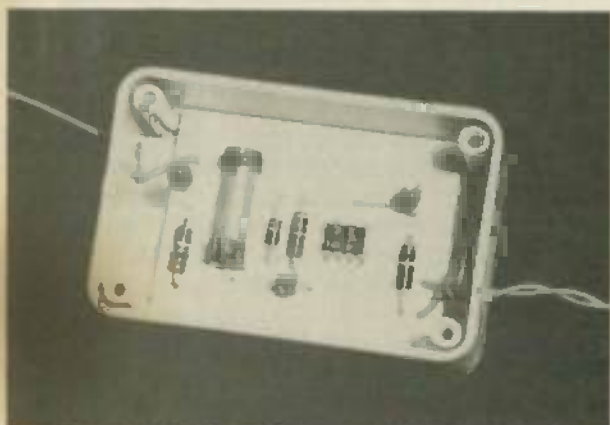

FIG. 3—USE THE RECOMMENDED CABINET, and the PC assembly just drops into place. Giving the wires a twist or two will provide strain relief.
-inch printed circuit board (Fig. 2) which can be tucked into a small plastic "pill box" (Fig. 3). The printed circuit template shown is the minimum size. If desired, you can expand the size of the board to fit larger cabinets, but use the same printed circuit template. For example, a sturdy cabinet was wanted for the unit shown in the photos, so the project was assembled in a Radio Shack "Experimenter's Cabinet," (catalog No. 270-230). (See Fig. 4.) The outer dimensions of the printed circuit board were increased to 1 $\frac{3}{8}$ inch by 2 $\frac{7}{16}$ -inches so the board could drop directly into the cabinet without the need for any mounting screws. Locate the hole for the LED in the top panel.